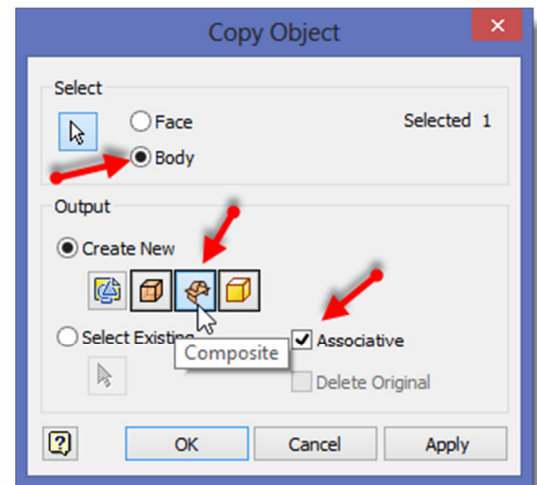

fig. 2
- 3) Once selected, in the Copy Object dialog box, check the settings to make sure Body is selected, Create New Composite is selected, and Associative is checked. Select OK. See fig. 2.